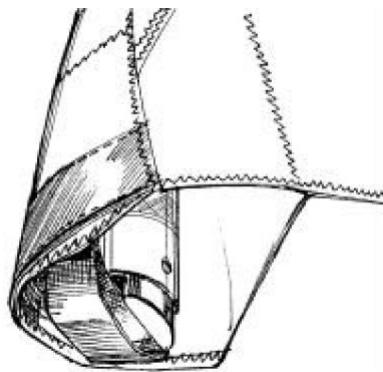

Fig. 16
Fix the joint using the nut and the safety ring (Fig. 16).
2.1.17. Tighten the sail along the leading edge and put the sail mount webbing into the slot in the end cap. Fix the sail by inside Velcro (Fig. 16).